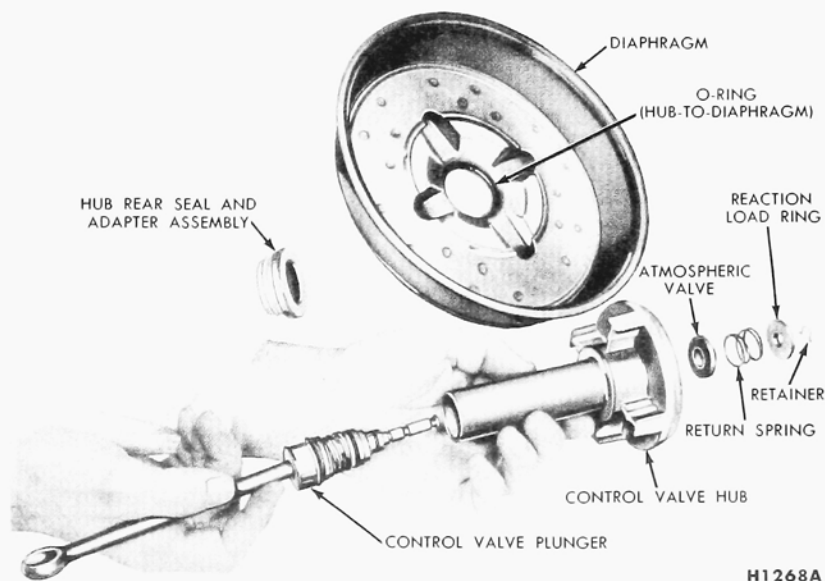

FIG. 30—Disassembly or Assembly—Control Valve Components-to-Hub and Diaphragm
13. Remove the hub rear seal and adapter assembly from the rear of the control valve hub, then separate the hub and plunger assembly from the diaphragm. Remove the retainer, the reaction load ring, the return spring, and the atmospheric valve from the hub and plunger, then slide the plunger out of the hub (Fig. 30). Remove the O-ring from the front side of the diaphragm. Remove the hub rear seal from the adapter assembly.
3. Insert the control valve plunger into the control valve hub from the rear of the hub (Fig. 30).